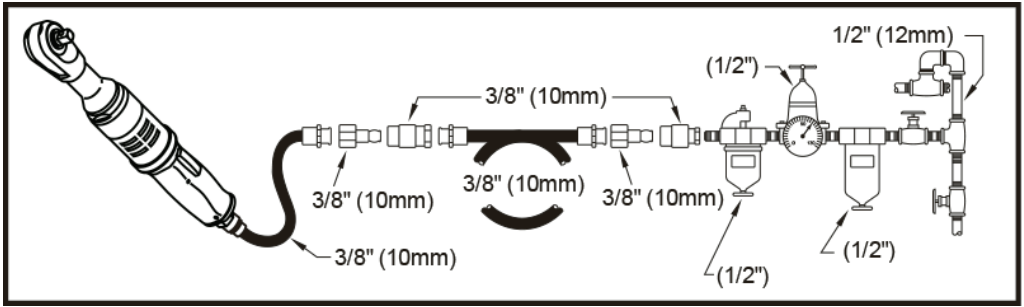
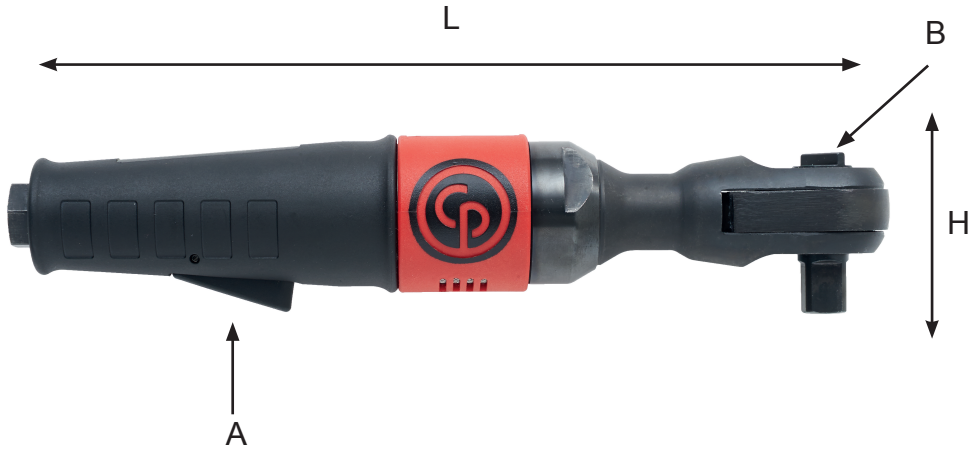

Fig. 01
Fig. 02
- Connect device as shown in Fig. 01 to a clean and dry air supply.
- To start the machine, pull the trigger (A). Machine speed is increase by increasing pressure on the trigger. Release the trigger to stop.
- To switch rotation, turn the switch (B) as shown in Fig. 02.